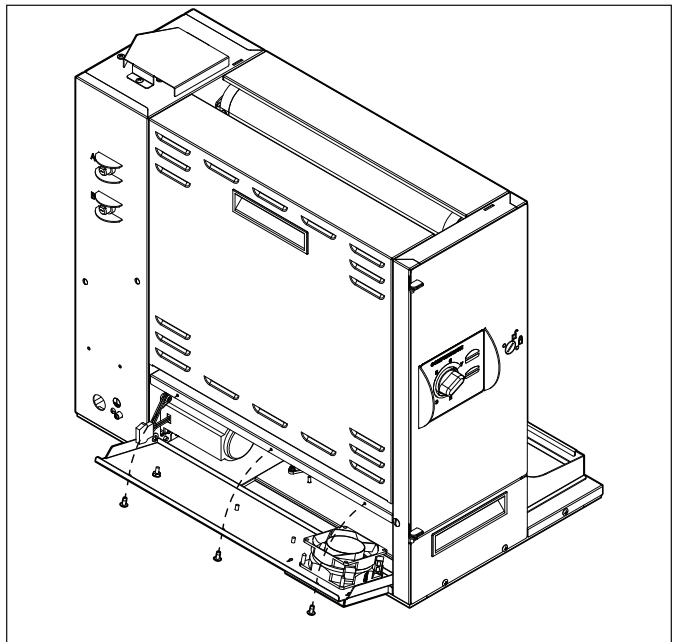

Figure 13. Accessing Rear Cooling Fan
1. With the unit off, remove the 3 rear screws securing the rear access panel and carefully lower the panel (Figure 13).